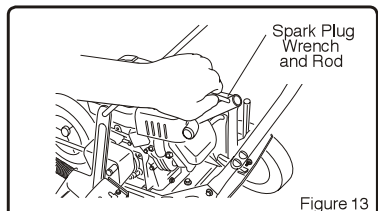

Figure 13
3. Use the spark plug wrench and rod (included with edger) to remove the spark plug. (See Figure 13)
7. Re-insert the spark plug and tighten using the spark plug wrench and rod. (See Figure 13)